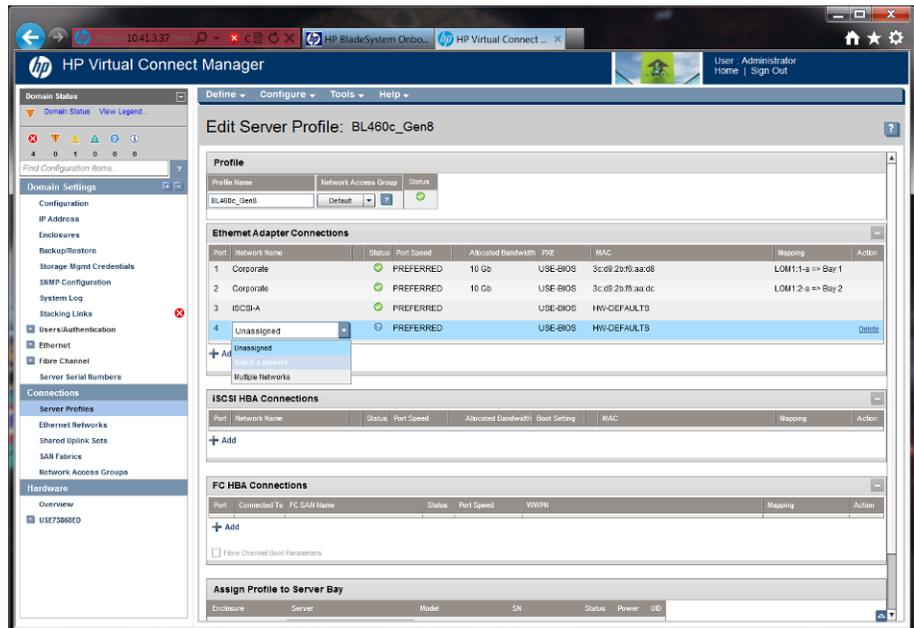

Figure 23: Selecting a network.
- On the first added port, click Unassigned→Select a network. (See Figure 23.)